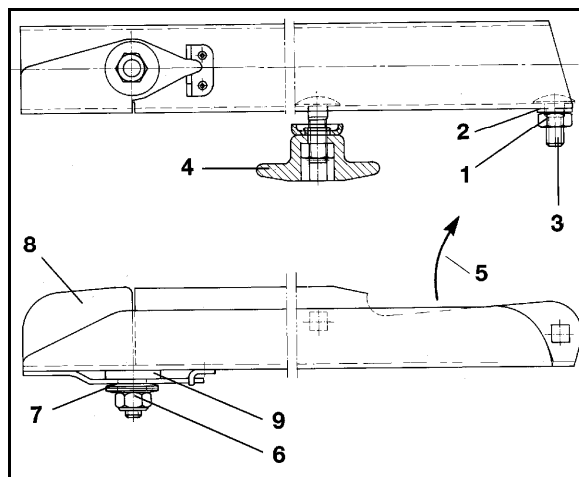

Fig. 78
1. Release the self-locking nut (Fig. 78/6).
2. Remove the self-locking nut (Fig. 78/6), disc springs (Fig. 78/7) and swivel blade (Fig. 78/8) from the fixing bolt.
3. Make sure that the plastic washer (Fig. 78/9) remains on the fixing bolt.
- 4.1 Push the new swivel blade (Fig. 78/8) on to the fixing bolt.
- 4.2 Push the disc springs (Fig. 78/7) alternately (not stacked on top of one another) on to the fixing bolt.
- 4.3 Secure the plastic washer (Fig. 78/9), swivel blade (Fig. 78/8) and disc springs (Fig. 78/7) with an unused self-locking nut (Fig. 78/6) so that they move on the spreading vane.
- 4.4 Tighten the self-locking nut (Fig. 78/6) with a tool so that the swivel blade (Fig. 78/8) can still just be swivelled by hand but cannot swing upwards automatically.